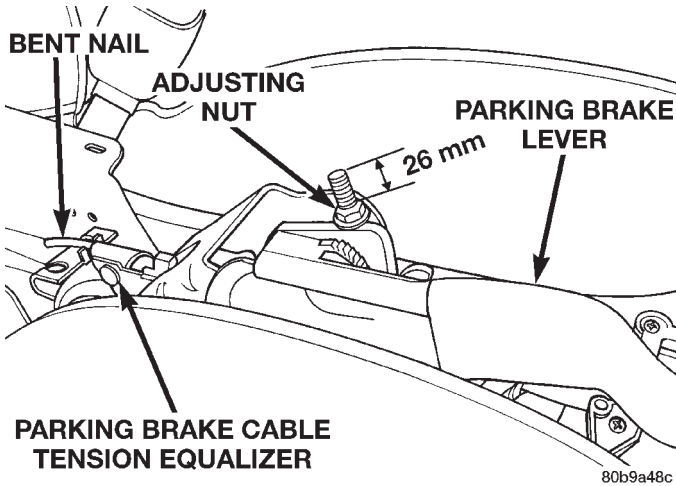

Fig. 142 Parking Brake Adjustment (Rear Disc Brakes)
- On vehicles with **REAR DISC BRAKES**, tighten the adjusting nut on the parking brake lever output cable until 26 mm millimeters of thread is out past top edge of adjustment nut (Fig. 142).